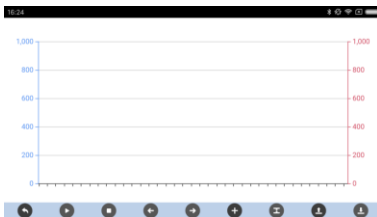

Figure 5
- E. You can click the  icon on the upper right to display the oscilloscope page, as shown in Figure 5.